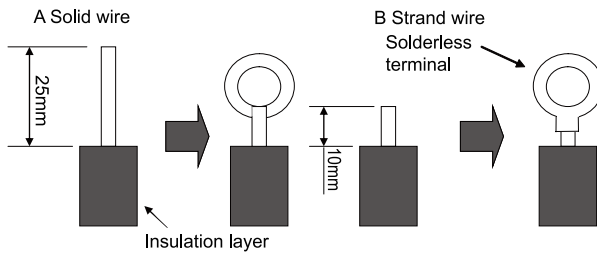

Fig.29
(1). For solid core wiring (Fig.29)
(2). For strand wiring ( Fig.29)